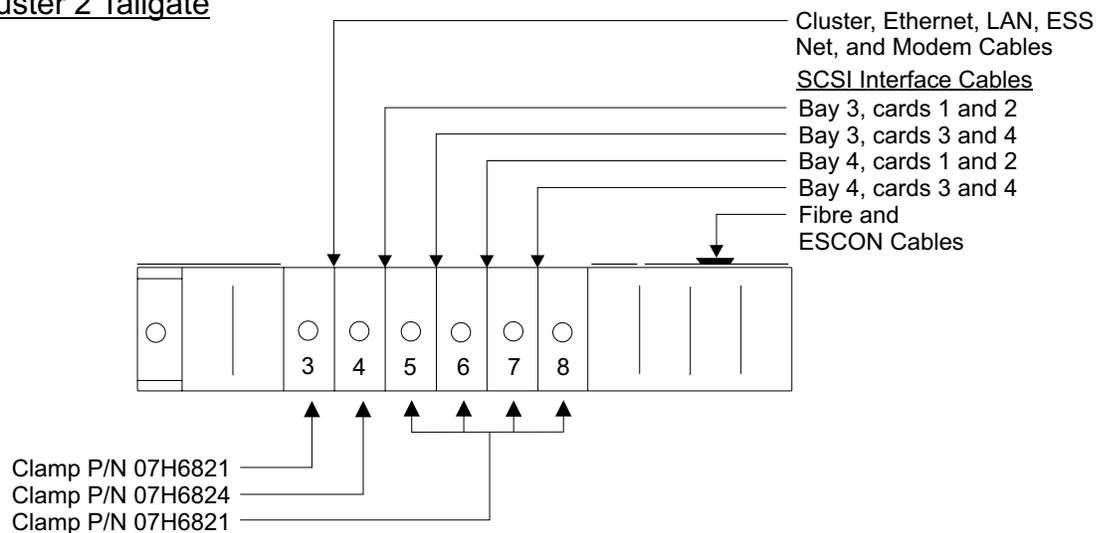

Figure 308. Cluster Bay 2, Tailgate Cable and Cable Clamp Locations (S008271m)
- Cluster Bay 2, see Figure 308 on page 312